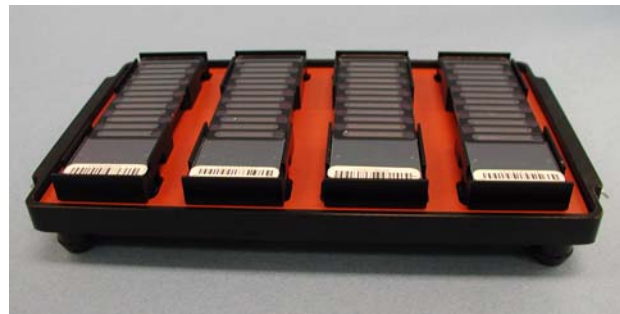

Figure 40 Placing Hyb Chamber Inserts into the Hyb Chamber
3. Load the Hyb Chamber inserts containing BeadChips into the Illumina Hyb Chambers as shown (Figure 40). Position the barcode end over the ridges indicated on the Hyb Chamber.